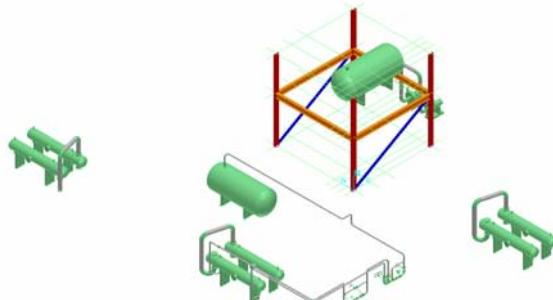

Figure 51: Isometric View
12. Click the **Finish** button on the **Mirror Copy** ribbon. The mirrored objects will appear in the graphic view, as shown in Figure 51 and 52.